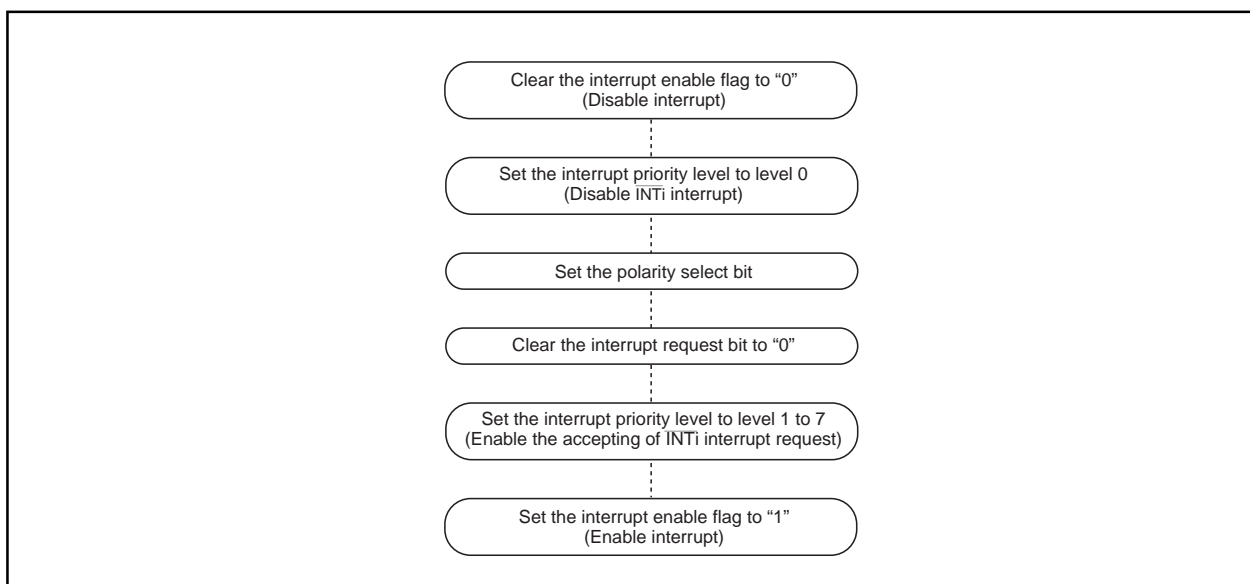

Figure 31. Switching condition of  $\overline{\text{INT}}$  interrupt request
- When the polarity of the  $\overline{\text{INT}}_0$  through  $\overline{\text{INT}}_5$  pins is changed, the interrupt request bit is sometimes set to "1". After changing the polarity, set the interrupt request bit to "0". Figure 31 shows the procedure for changing the  $\overline{\text{INT}}$  interrupt generate factor.